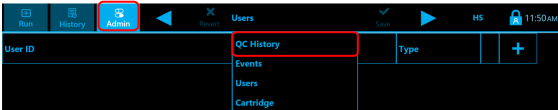

Figure 13. Steps 2, 3 Quantra Reference Screen.
2. Log in to the Quantra and click on the **Admin** tab (Figure 13).